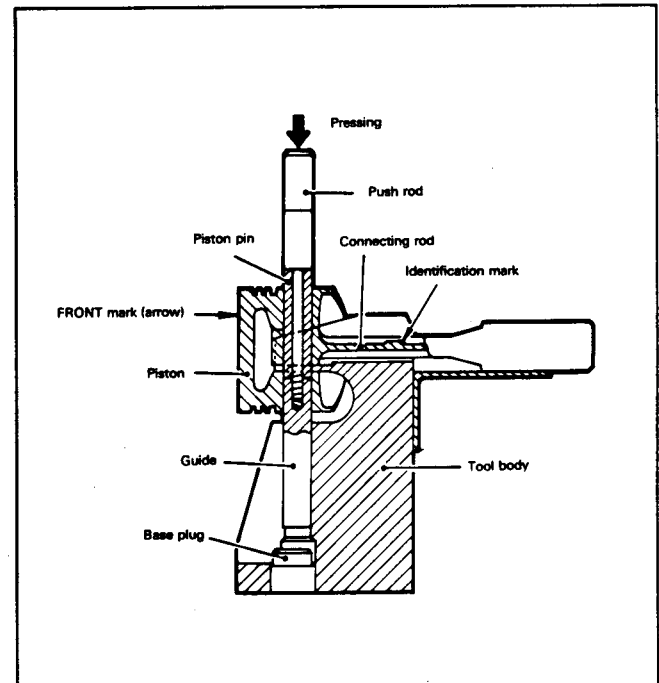

Figure 98
13. To assemble the piston to the connecting rod, press the piston pin into the set position. Use the piston pin setting tool (Fig. 98). Make sure the identification mark of the rod and the arrow mark on the piston head are directed up.